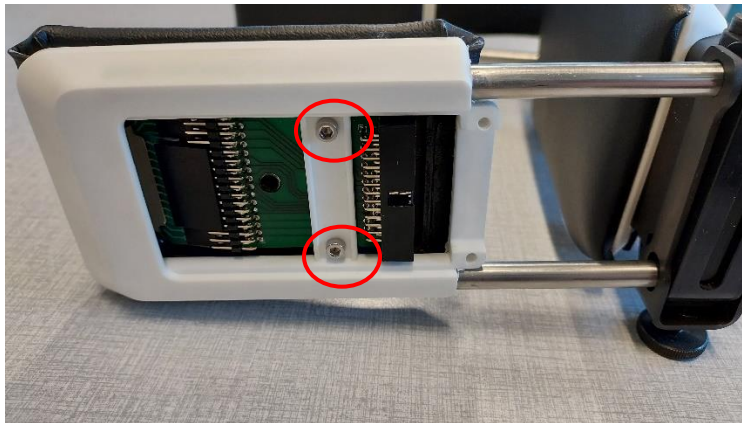

Figure 29. Two screws inside the side pad.
2. Locate and remove the two screws inside the side pad (See Figure 29).